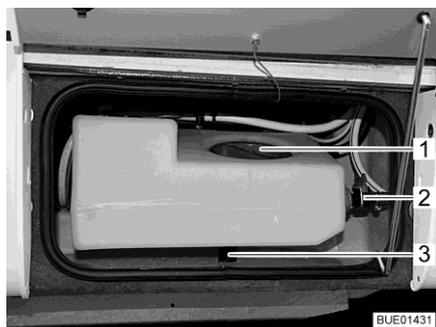
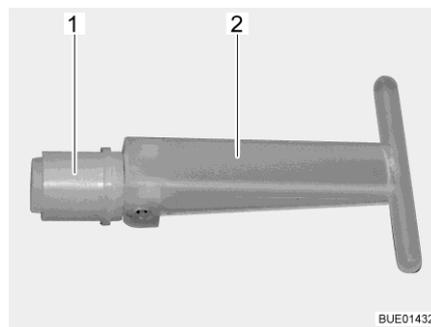

Fig. 165 Auxiliary water tank
Fig. 166 Stopper
When the emptying valve (Fig. 165,2) is open, the fill quantity of the auxiliary water tank is limited to approximately 30 litres; excess water will drain off. When the emptying valve is shut, the entire tank volume is available.
When the stopper (Fig. 166,1) is pulled in the inside of the auxiliary water tank, the water drains away via the drain (Fig. 165,3). The stopper can be accessed via the service opening (Fig. 165,1).
- Ensure that the stopper (Fig. 166,1) in the auxiliary water tank is shut (handle (Fig. 166,2) is folded out).
- Ensure that the emptying valve (Fig. 165,2) is shut.
- Open the service opening (Fig. 165,1) in the auxiliary water tank.
- Access the handle (Fig. 166,2) of the stopper (Fig. 166,1) via the service opening, turn the handle to the vertical position and remove the stopper.